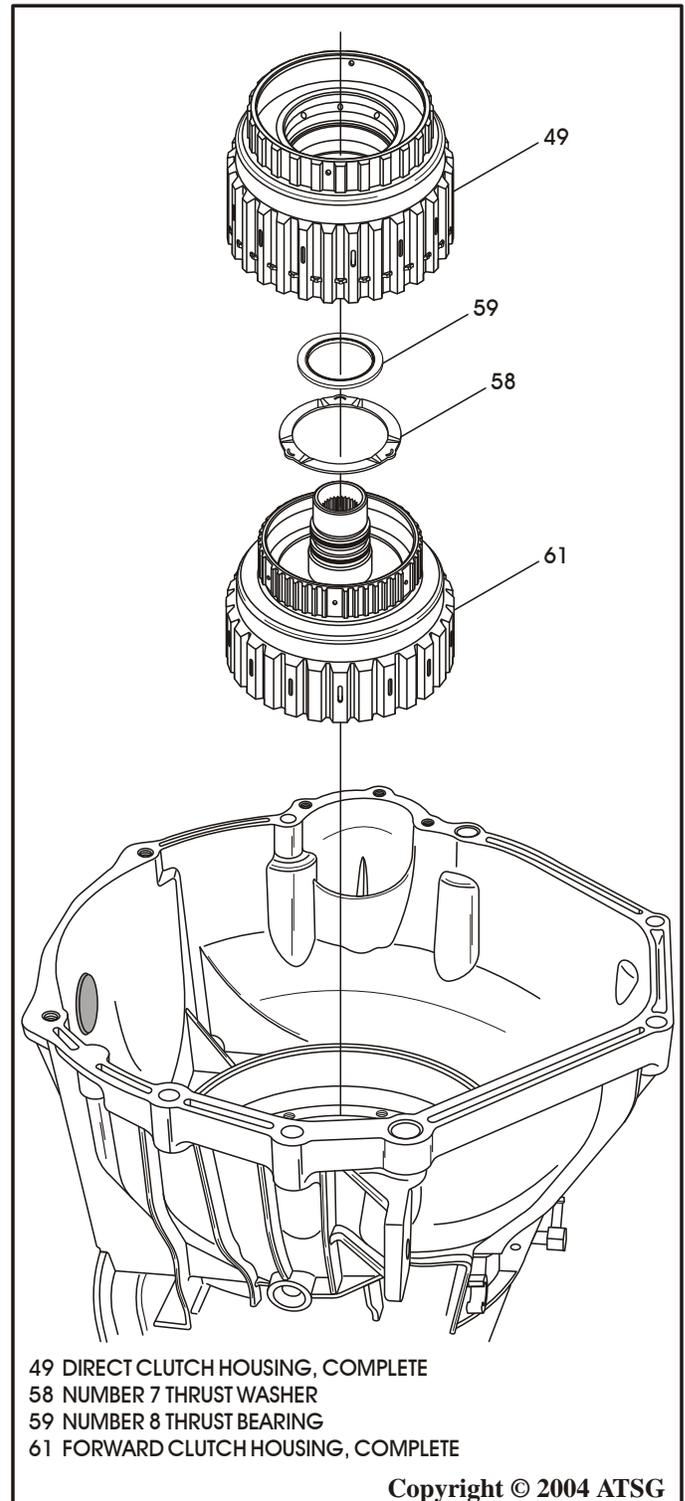

Figure 44
41. Remove the direct clutch housing assembly, as shown in Figure 44, and set housing aside for the component rebuild section.
42. Remove the forward clutch housing assembly, as shown in Figure 44, and set housing aside for the component rebuild section.